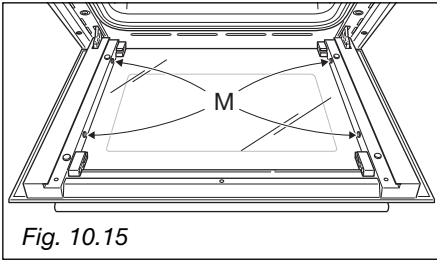

Fig. 10.15
- Check that the four rubber pads are in place (**M** in fig. 10.15).